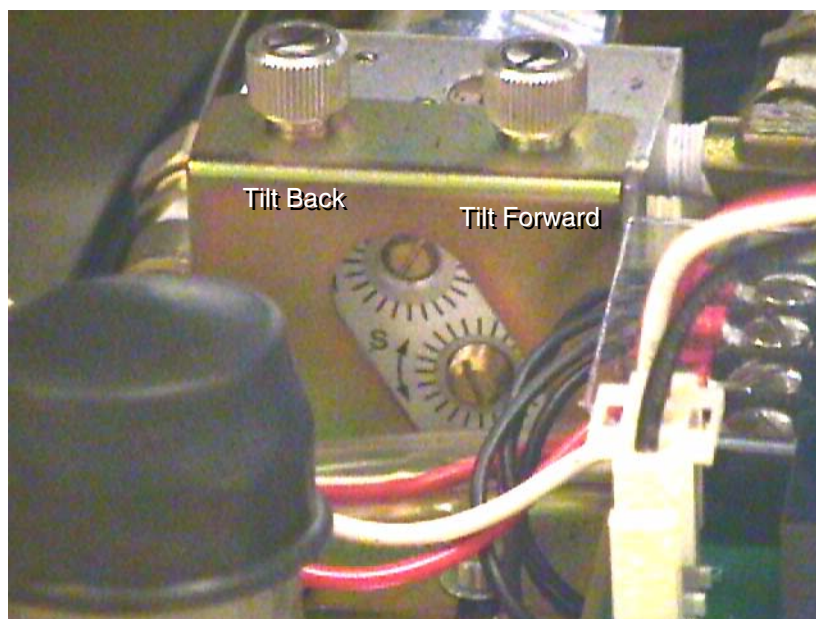

Figure 7-7 Tilt Speed Adjustment Screws
- 3.) From zero (0) degrees tilt, press and hold the tilt forward button,  until the gantry display reads S25. Observe the tilt speed using a time piece.
- 5.) Adjust the forward speed control valve for one (1) degree per second motion (see Figure 7-7).
- 6.) Adjust the backward speed control valve for one (1) degree per second motion (see Figure 7-7).